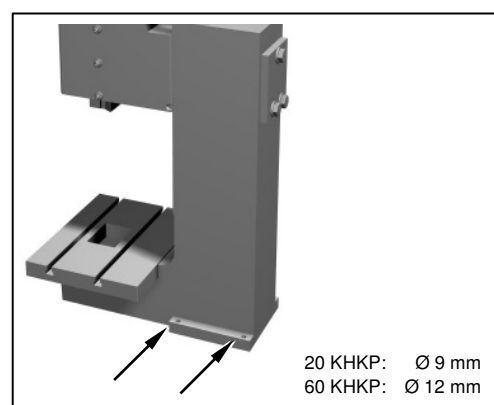

Fig. 3 Bores on foot of press stand
- ▶ Before commissioning you must fix the press by means of the four bores on the press stand (**Fig. 3**).